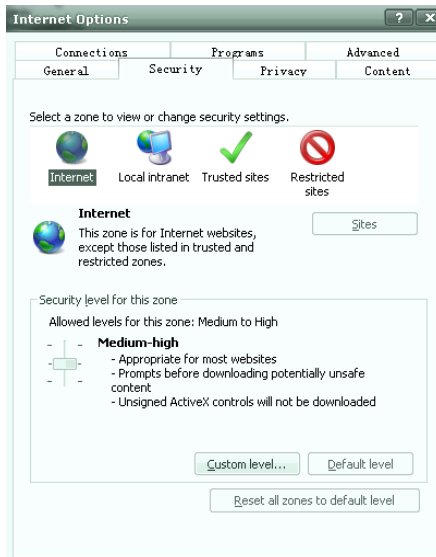
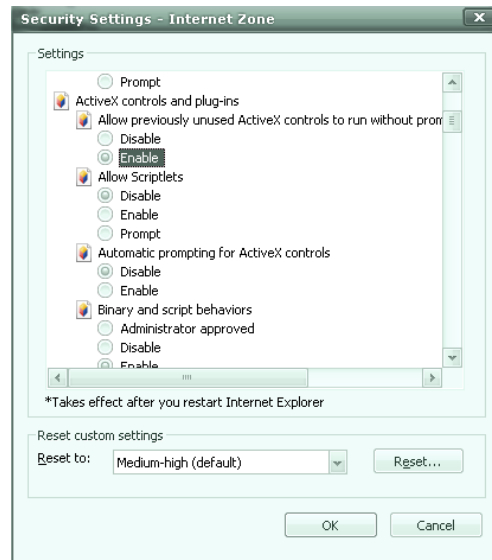

Fig. 5.1
Fig. 5.2
1. Open the IE browser, Click "Tools-Internet Options - Security-Internet-Custom Level" (Figure 5.1), and set the items of ActiveX controls and plug-in to "Enable" (Figure 5.2).